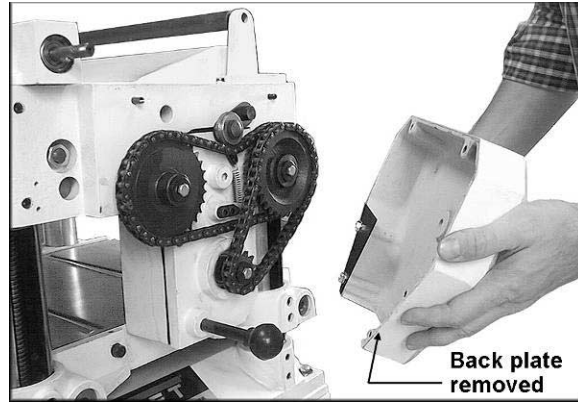

Figure 29
2. Remove the socket head cap screw from the center of the cover using a 6mm hex wrench. Remove the left triangular back plate (2 screws) using a 10mm wrench. See Figure 29.